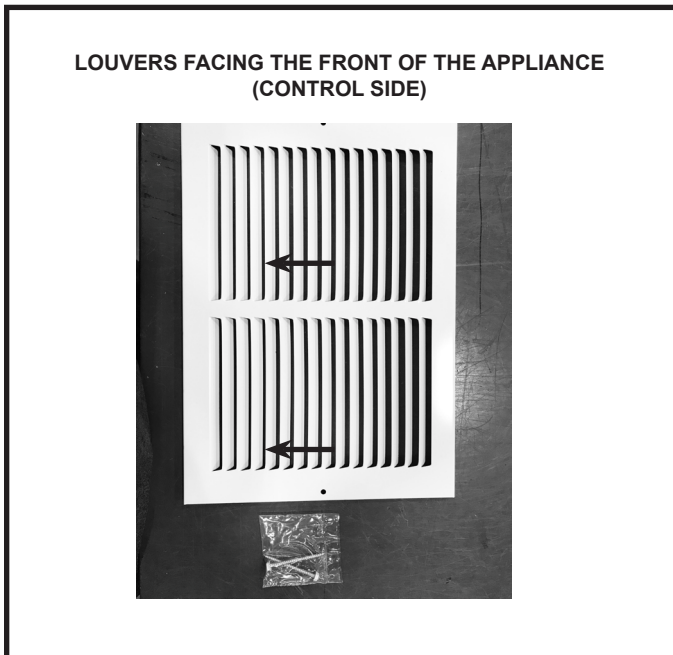

Figure 17 Correct Register Orientation
1. Install register cover with louvers facing the front of the fireplace (control side) using provided screws. See Figure 17.